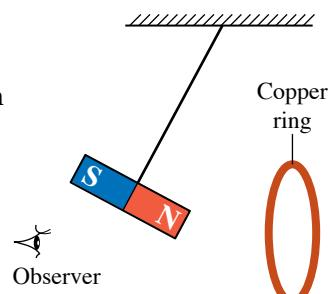

Figure 4.30
- Figure 4.30 shows a simple pendulum with a bar magnet as the bob oscillating near a copper ring.
(b) At the position of the observer in front of the ring as shown in Figure 4.30, state whether the current in the copper ring is clockwise or anti-clockwise.